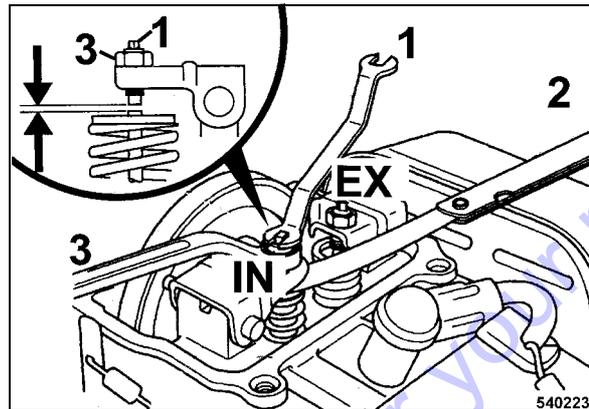

Fig. 50
- Measure the valve clearance between valve adjustment screw and valve with a feeler gauge (2) (Fig. 50).
- To adjust the valve hold valve adjustment screw (1) and slacken locking screw (3).